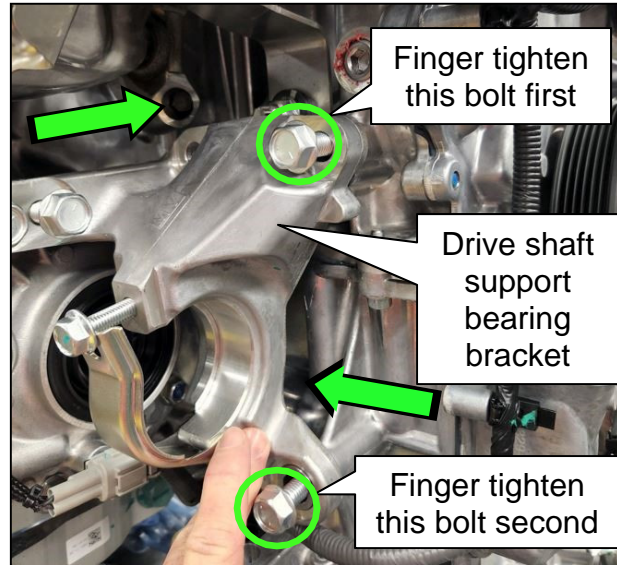

Figure 10
1. Place and hold the drive shaft support bearing bracket into position, ensuring it is flat against the engine block and transfer assembly and loosely install the bolts (Figure 10).